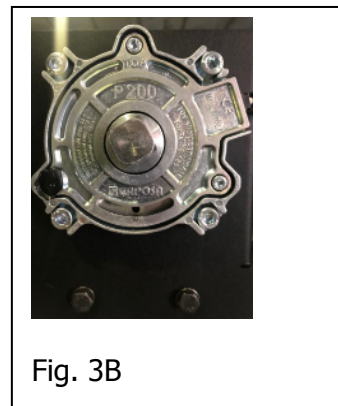

Fig. 3B
- The lift is supplied with a safety mechanism (Fig. 3B) with a double security system: first - this is a mechanic safety system that prevents the steel cable to unroll when the speed has reached 50 rpm; second – this is an electrical security system that disconnect the electrical connection of the motor if the force driven on the steel cable, caused by the falling down, is more than 503 Nm.